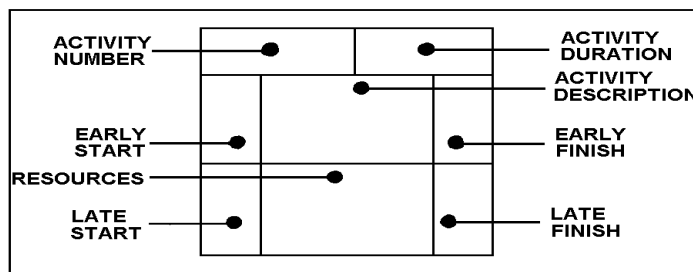

Figure 1
- e. Describe the terms in figure 1.